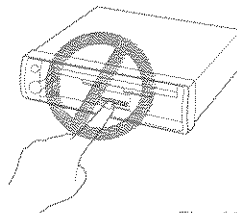
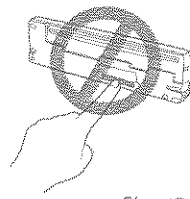

Fig. 16
Fig. 17
- Do not touch the contacts on the front panel or on the unit body, since this may result in poor electrical contact. If dirt or other foreign substances get on the contacts, wipe them with a clean, dry cloth. (Fig. 16) (Fig. 17)